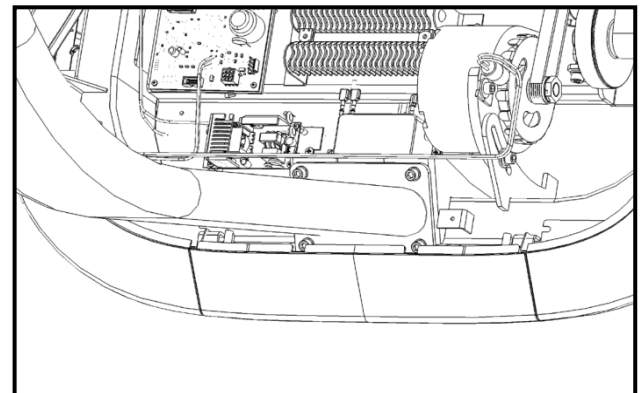

Fig. 6
6. Mount the neck mast (Fig. 6) to the base by lightly torquing four socket head cap screws in place at the front of the base frame.